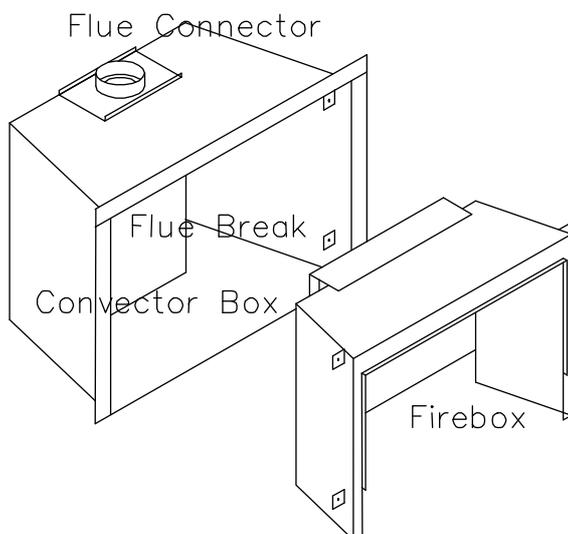

FIGURE 3
- c Undo the four screws holding the firebox in the convector box and lift the firebox out of the convector box. See figure 3. As the firebox is lifted away disconnect the circulation fan lead from the wiring box by separating the 'Molex' connectors.